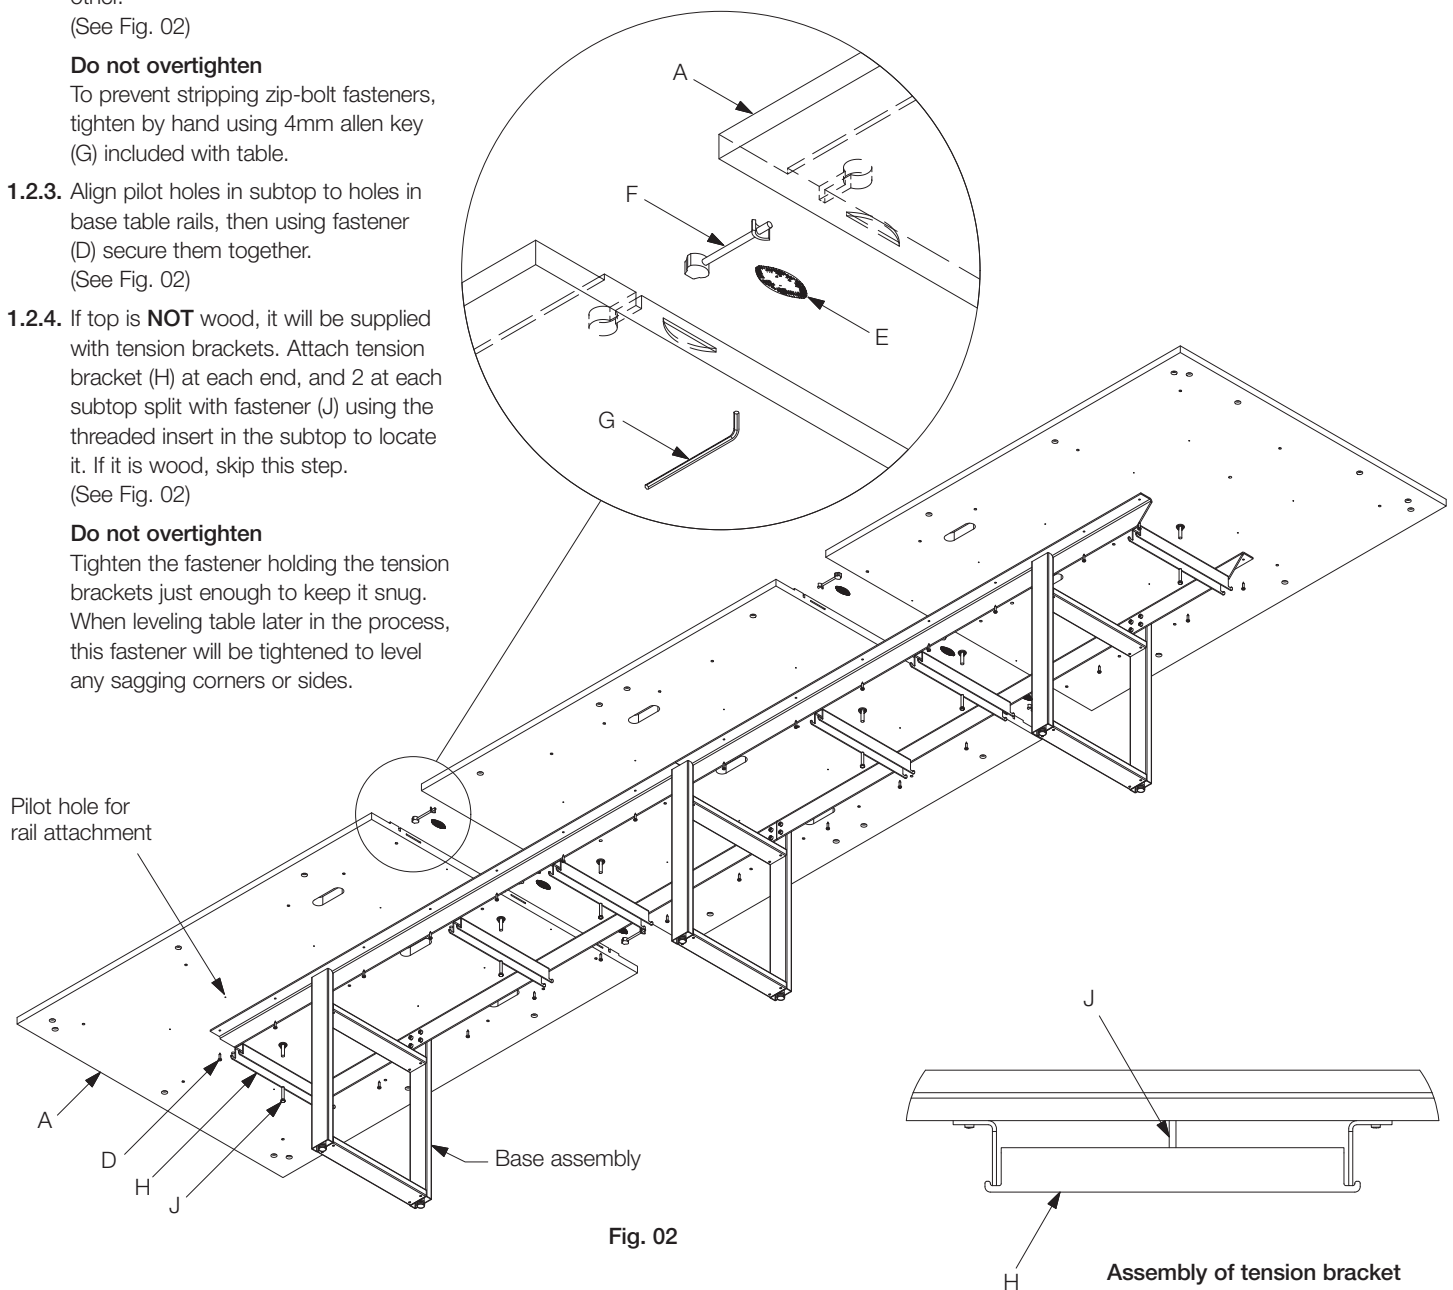

Fig. 02
- 1.2.1. Place all subtop (A) sections on table base with pilot holes to attach subtop to table rails facing down. (See Fig. 02)
- 1.2.2. Using alignment biscuit (E) and zip-bolt (F) connect the subtop sections to each other. (See Fig. 02)
- 1.2.3. Align pilot holes in subtop to holes in base table rails, then using fastener (D) secure them together. (See Fig. 02)
- 1.2.4. If top is **NOT** wood, it will be supplied with tension brackets. Attach tension bracket (H) at each end, and 2 at each subtop split with fastener (J) using the threaded insert in the subtop to locate it. If it is wood, skip this step. (See Fig. 02)